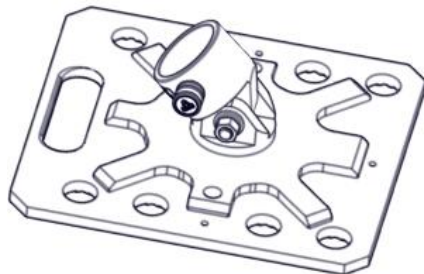

Figure 1-16. Hinged Base 12
m. **Hinged Base 12.** The Hinged Base 12 (Figure 1-16) is similar to Hinged Base 6 except it has a 12" base plate with 8 holes to accept 1" (2.5 cm) pickets.